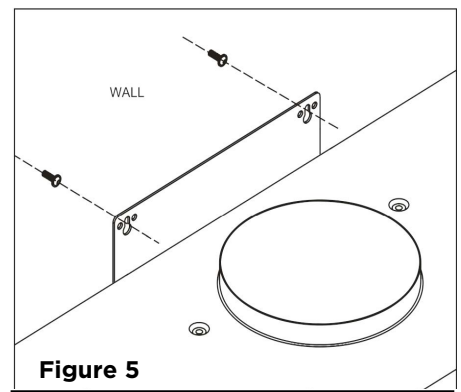

Figure 5
4. Align the hood-mounting bracket to the screws on the wall and hook hood into place as shown in Figure 5.